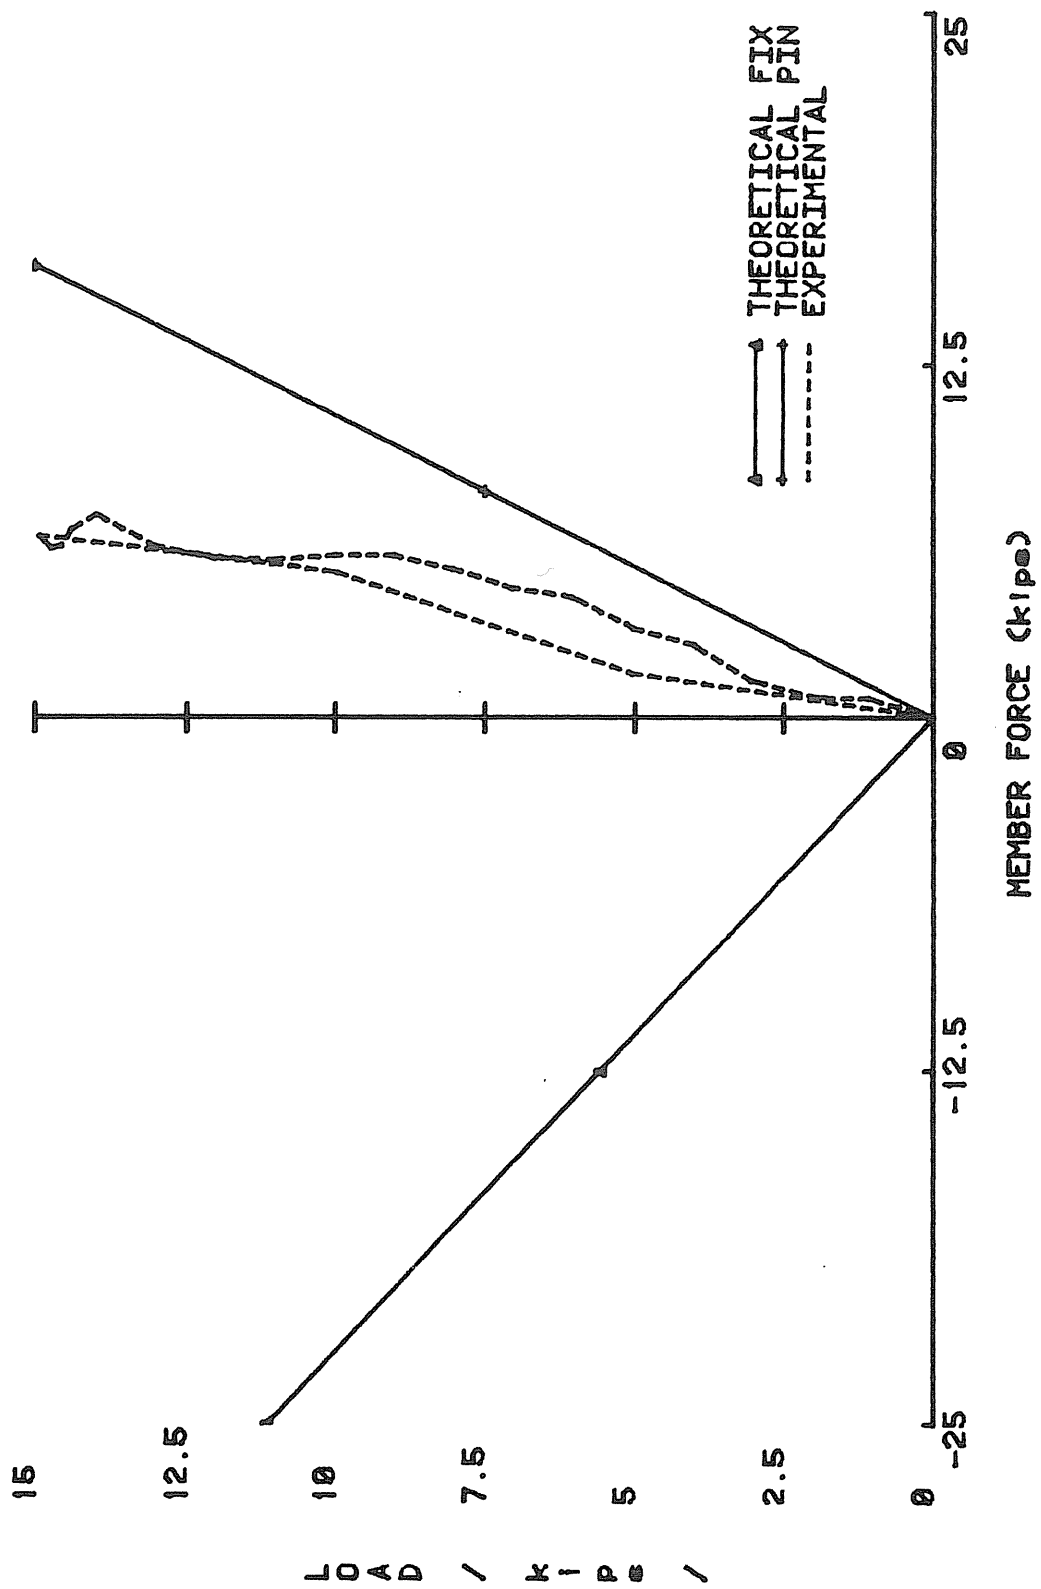

FIGURE C.6 LOAD VS. MEMBER #2 FORCE, TEST PBP3
- Figures C.6 to C.12 show that the member forces were less than predicted for all members except the force in member #48 which was greater than predicted. Members #24 and #48 shows signs of yielding at the maximum applied load.